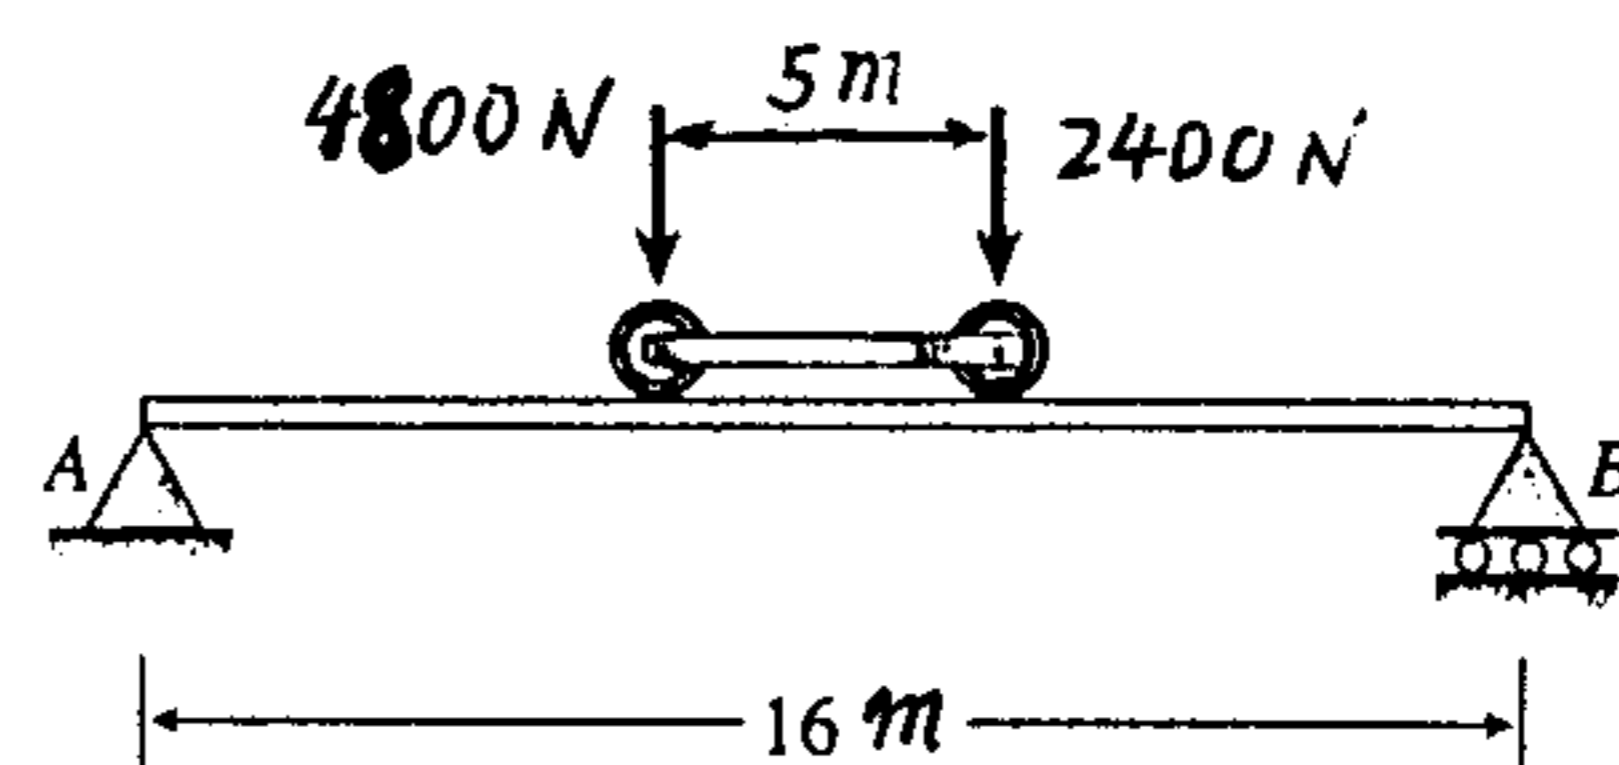

Fig. 2
2. A two-axle carriage that is part of an overhead traveling crane in a testing laboratory moves slowly across a simple beam AB as shown in Figure 2. The load transmitted to the beam from the front axle is 2400 N and from the rear axle is 4800 N. The weight of the beam itself may be disregarded. Determine the minimum required section modulus  $S$  for the beam if the allowable bending stress is 120 MPa, the length of the beam is 16 m, and the wheelbase of the carriage is 5 m. (25%)